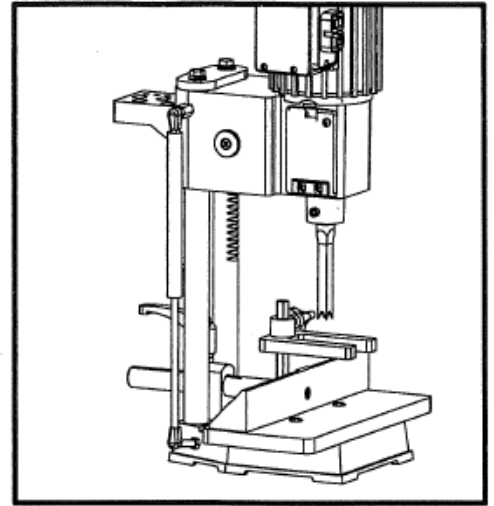

Fig.6
3. The hold down bracket may be placed on the support rod in two positions. If placed on the support rod, the bracket will hold down a workpiece slightly taller than the fence. When placed in the position shown in Fig. 6, the bracket will hold down a workpiece that measures $3/8$ " less than the height of the support rod.